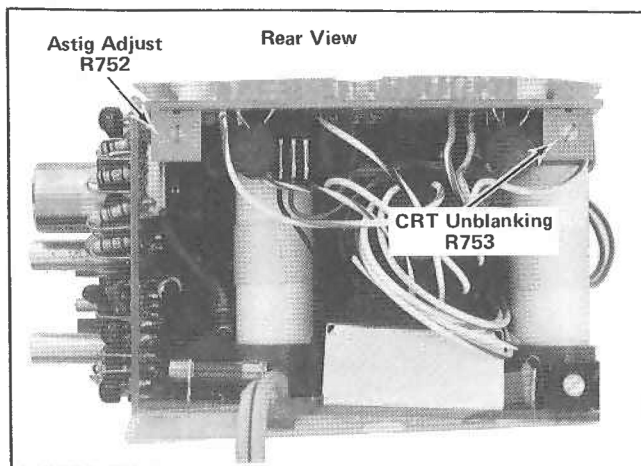
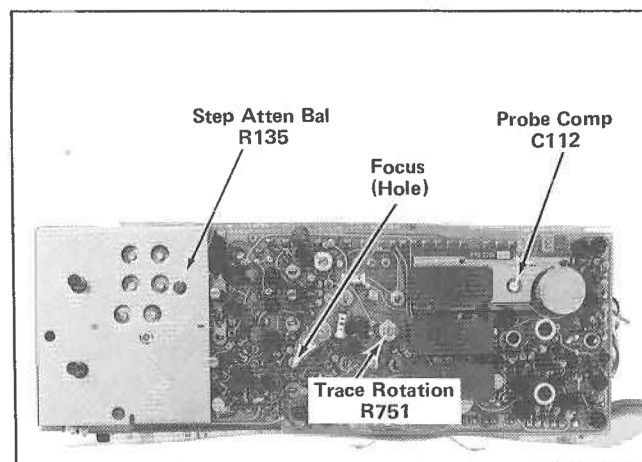

Fig. 5-3. Location of Astigmatism and CRT Unblinking adjustments.
Fig. 5-4. Location of Step Attenuator Bal, Probe Compensation, and Focus adjustments.
Preset the controls as given in the Preliminary Control Setting. See Fig. 5-3 and Fig. 5-4 for locations of adjustment controls.
- d. Adjust Trace Rotation R751 (screwdriver adjustment on sidepanel) for a trace that is parallel with the horizontal graticule lines. See Fig. 5-4.
- b. Adjust unblinking adjustment R753 (see Fig. 5-3) so that retrace is just blanked out.
- Adjust the STEP ATTEN BAL adjustment, R135, for a trace at the horizontal center line. See Fig. 5-4.
- Adjust C112 for the best square-wave display (flat top). See Fig. 5-4.